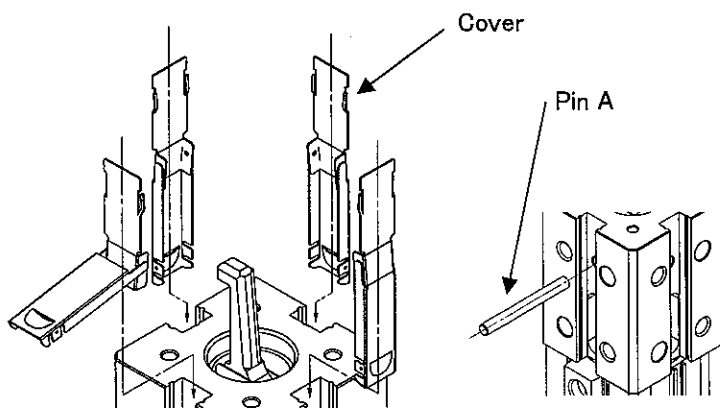

Fig. 7-3
• Take off the cover and remove pin A. (Fig. 7-3, 7-4)